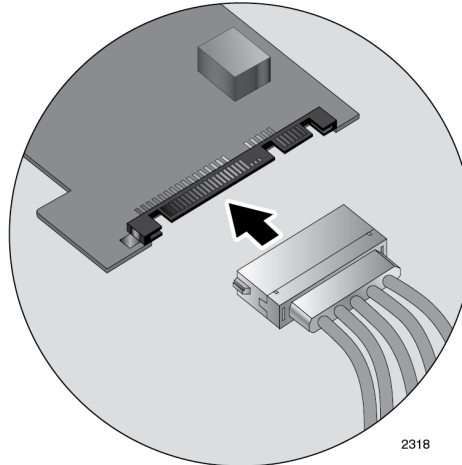

Figure 15. Connecting the SATA Receptacle
7. Connect a SATA power connector from the power supply on your system to the SATA receptacle on the AT-2911GP adapter card as shown in Figure 15 on page 33.